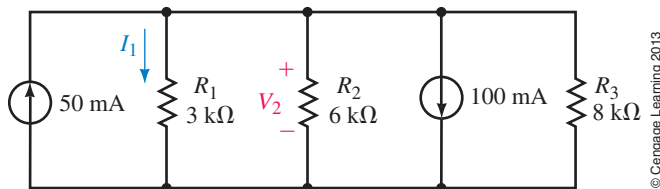

FIGURE 8–76
- Convert the voltage sources of Figure 8–77 into current sources and solve for the current I_1 and the voltage V_{ab} .